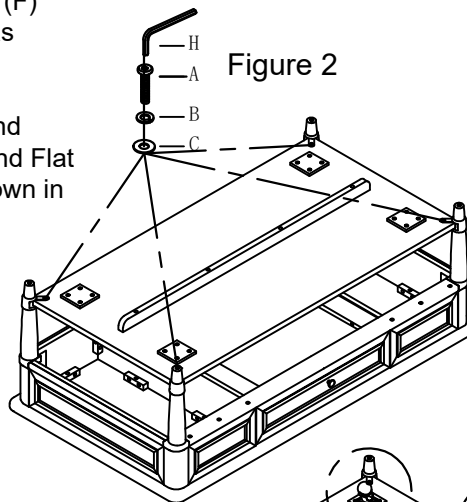

Figure 2
3. Attach the bottom panel to the leg and tighten Bolt (A) with Lock Washer (B) and Flat Washer (C) by Allen Wrench (H) as shown in Figure 2.